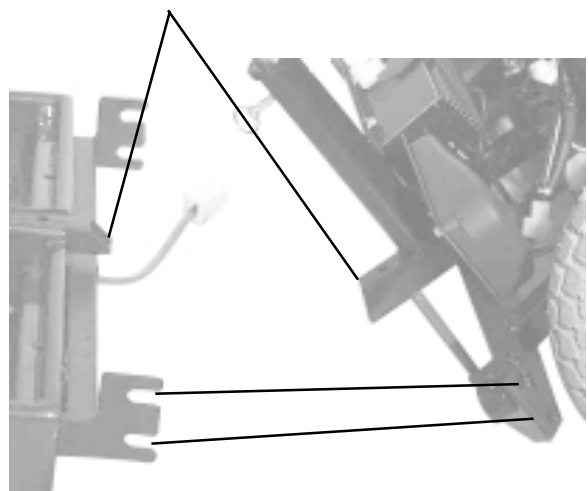

Figure 17. Frame Lock
3. Align the lower slots on the rear of the front section to the corresponding pegs on the front of the rear section. See figure 17.